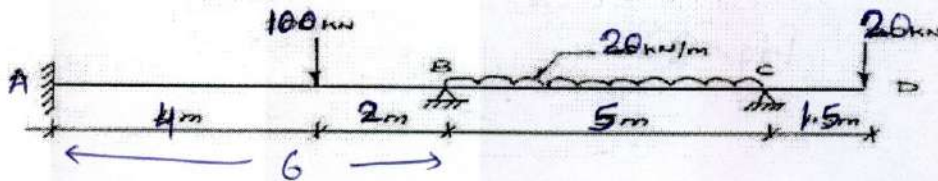

Fig 1
- Ques 5: Analyse the continuous beam ABCD as shown in fig.1 by slope deflection method. The support B sinks by 15 mm downwards. Take  $E = 200 \times 10^5 \text{ KN/m}^2$  and  $I = 120 \times 10^6 \text{ m}^4$ . [4]